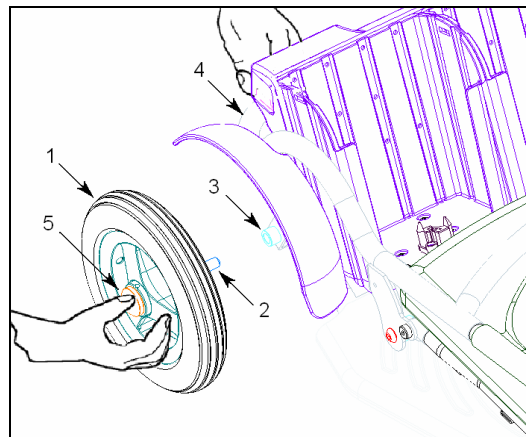

Fig 2
4. Fit the rear wheels first (see Fig 2). These have a quick release facility which enables you, if necessary, to remove them when packing into the boot of your car. These locate into the assembly at the rear of the frame (fig 2-3). They are fitted by holding the wheel with your fingers through the spokes, and with your thumb press in the rubber button in the centre of the wheel (fig 2-5). With your other hand lift the corner of the frame and insert the axle into the wheel mount. Release the button and always check the axle is locked by pulling the wheel. Repeat for the other wheel.